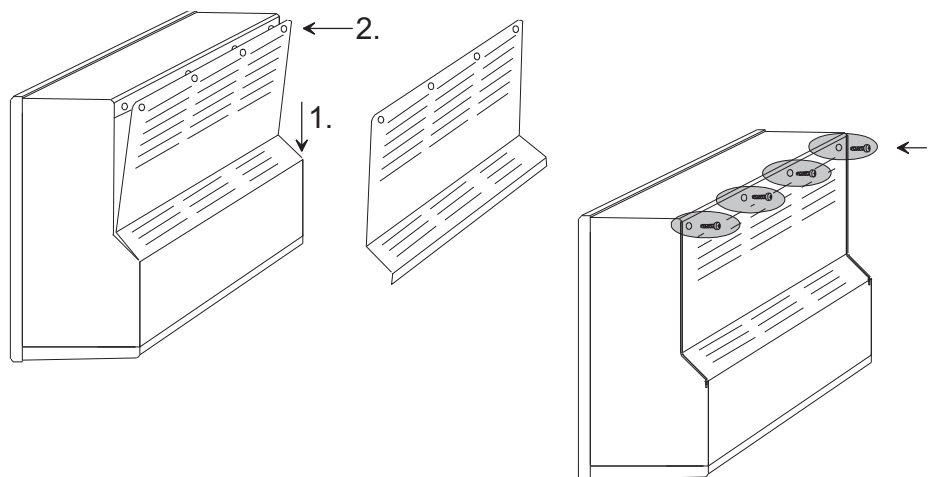

Fig. 8-12: Mounting of rear cover
16. Reinstall rear cover and remount an optional stand-off. (fig. 8-12)